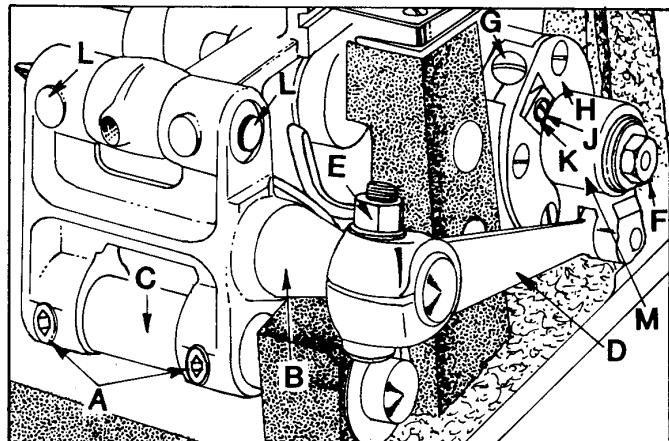

Fig. 11
Right to left adjustment can be made by loosening screw (A, Fig. 11) and slightly move feed rocker (B) on feed rocker shaft (C) as required, then retighten screws. Check to ensure that feed rocker arm (D) does not bind after adjustment.
Forward or rearward centering of the feed dog can be accomplished by loosening nut (E, Fig. 11). Move feed rocker (B) as required and retighten nut.
**CAUTION:** Feed crank link sub-assembly (M, Fig. 11) **MUST** have shake with **NO** binds at a  $360^\circ$  rotation of the handwheel. Nut (F) should be torqued at 55 in. lbs. (63 cm/kg).
Set the stitch to required length. This is accomplished by loosening locknut (F, Fig. 11) on the end of the stitch regulating stud 1/2 turn (it has a left hand thread). Turn stitch adjusting screw (G) located under the left end of the cloth plate, in the end of main shaft (H), which is marked with "L" and "S". Turning the screw clockwise shortens the stitch (moves stitch regulating stud toward the "S") and turning it in a counterclockwise direction lengthens the stitch (moves stitch regulating stud toward the "L"). Retighten locknut securely. To prevent destructive damage to the feed drive bearing, key screw (J) must engage the "U" shaped key slot in ferrule (K).
Needle bearings in the feed rocker at locations (L, Fig. 11) may require repacking after years of service. Bearings should be thoroughly cleaned and repacked with Union Special Corporation grease No. 28604P.